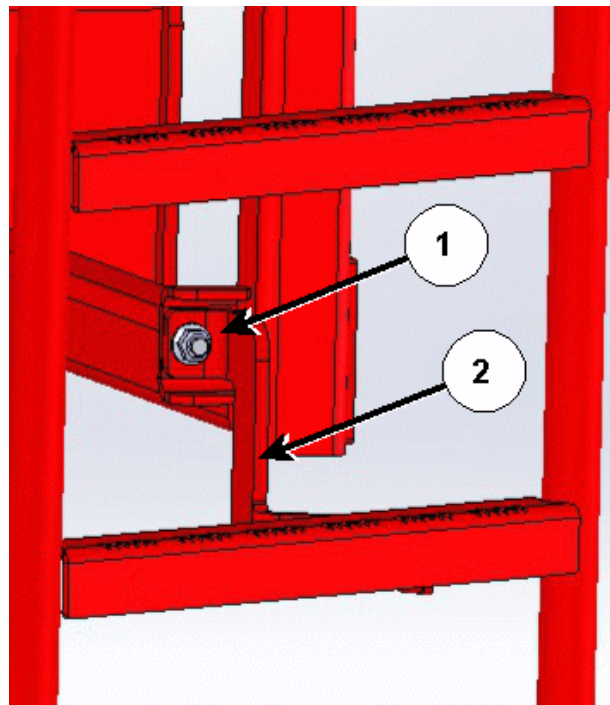

Figure 5: Remove the fasteners from the ladder support bracket
- a. Before one can attach the front conveyor slide to the machine, remove the fasteners (1) from the ladder support bracket (2) and the platform upright on the left side of the machine, see *Figure 5*.